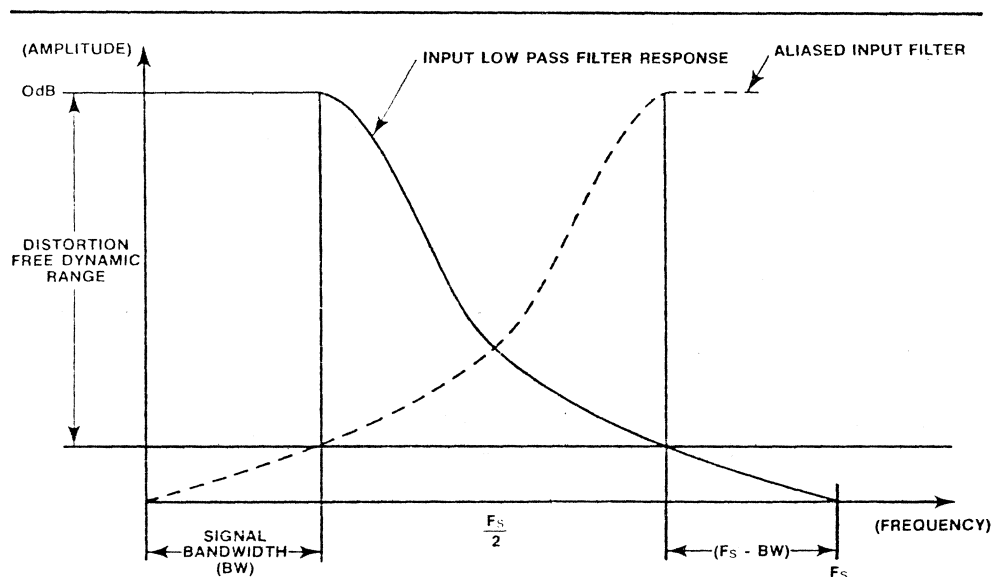

Figure 6-4. Aliasing Considerations
Before one can specify the requirements for an anti-aliasing and reconstruction filter, one must first specify what distortion free dynamic range is needed. Once this is known, the frequency components generated from sampling can be attenuated, using the input and output filters, to the point where they do not distort the signal within the distortion free dynamic range of the system. For example, if the distortion free dynamic range of a 2920 application is 30 dB, then the input anti-aliasing filter should attenuate all input frequencies greater than or equal to the sampling frequency minus the bandwidth ( $F_s - BW$ ) by greater than 30 dB. (See Figure 6-4.) This way any aliasing distortion will be less than 30 dB within the signal bandwidth and will not introduce any distortion within the dynamic range of the system. For the reconstruction filter, if we assume that no aliasing distortion has been introduced within the 2920 then all of the frequency components outside of the signal bandwidth should be attenuated greater than 30 dB.
3. Connect an input signal (oscillator) to the BNC input connector IN0. This input signal can be a sine wave, square wave, or any other waveform that goes both positive and negative (see Figure 6-4).